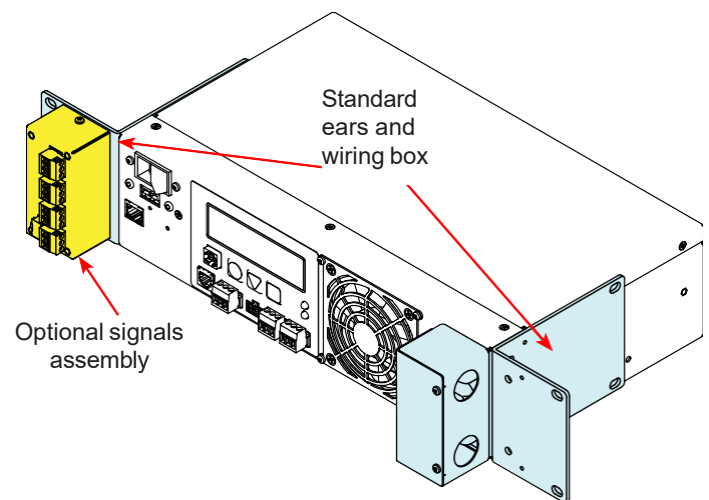

Figure 10 — Rack-mount options
- Rack mounted in a 19" or 23" rack with add-on ears and a wiring box (Figure 10). An optional signals assembly can be ordered, which provides two user inputs and three dry contacts.
- Rack mount ears and wiring box kit for mounting in a 19" or 23" rack (Figure 10)